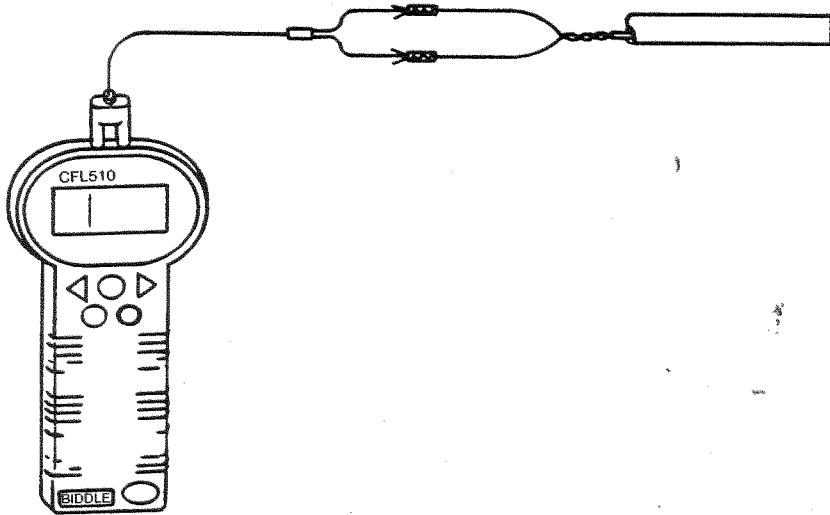
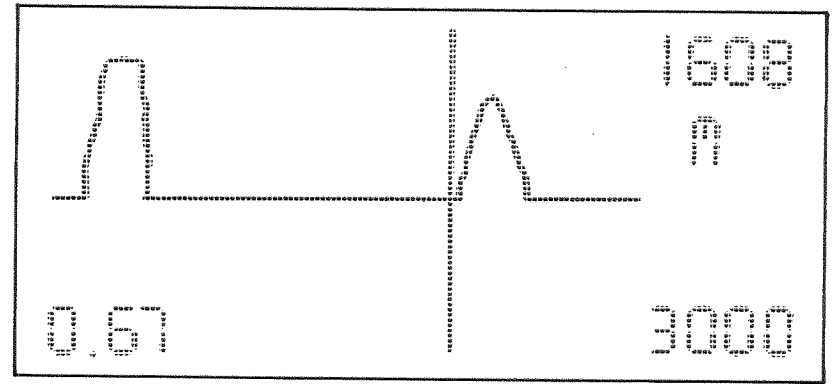

Figure 4: Connection Diagram
Figure 5: Cable Trace Display
2. Connect each test lead alligator clip to one of the conductors in the cable. The instrument has a balanced output, so the polarity of the test leads does not matter. Figure 4 shows a diagram of the proper way to connect the instrument to a cable consisting of a twisted telephone pair. Figure 5 shows a cable trace. Remove the temporary ground connections before continuing.
Obtain the display using the preceding procedure. Figures 5, 6, and 7 show typical displays. Use the cursor controls to move the cursor left or right until the cursor coincides with the point on the horizontal line just before the reflected pulse from the fault or cable end. Reflected pulses appear as upward or downward deviations from the horizontal line.